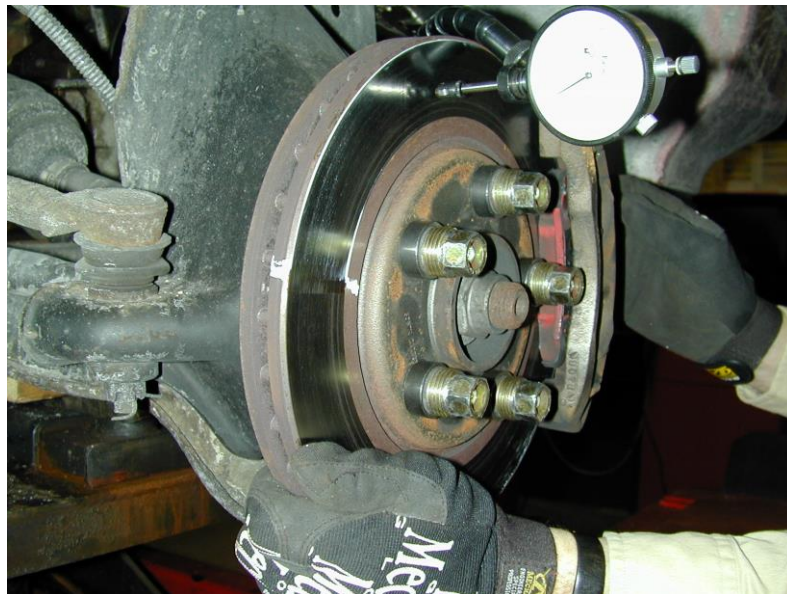

Fig. 3
* Begin the process by cleaning the hub and rotor of rust and burrs. Identify one of the wheel studs with a yellow marker, torque the rotor to the hub and check run-out. If the run-out is out of specification, remove the lug nuts and move the rotor one-wheel stud to the right. Torque the lug nuts and re-check rotor run-out. Repeat this sequence until the least amount of run-out is attained. Fig.3